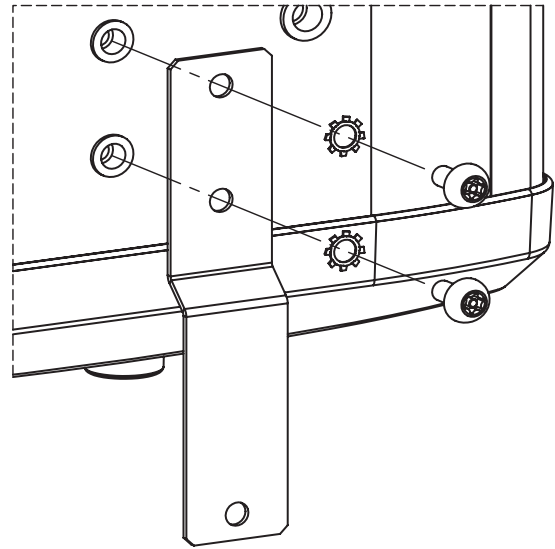

Figure 5: Bottom Bracket
- ▶ The bottom bracket will require mounting to the casing as shown in figure 5 using the fixings supplied. This must be done before the appliance is mounted on the wall.